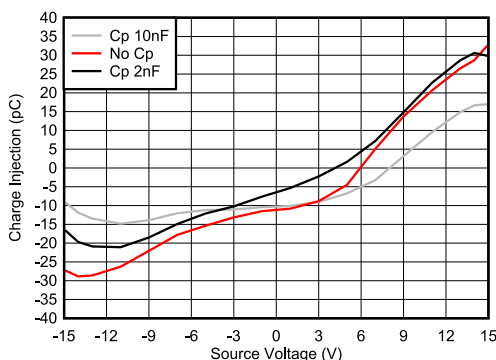

图 8-2. Charge Injection Compensation
The TMUX7234 contains specialized architecture to reduce charge injection on the source (S_x). To further reduce charge injection in a sensitive application, a compensation capacitor (C_p) can be added on the drain (D). This will ensure that excess charge from the switch transition will be pushed into the compensation capacitor on the drain (D) instead of the source (S_x). As a general rule of thumb, C_p should be 20x larger than the equivalent load capacitance on the source (S_x). Figure 8-2 shows charge injection variation with different compensation capacitors on the drain side. This plot was captured on the TMUX7219 as part of the TMUX72xx family with a 100pF load capacitance.